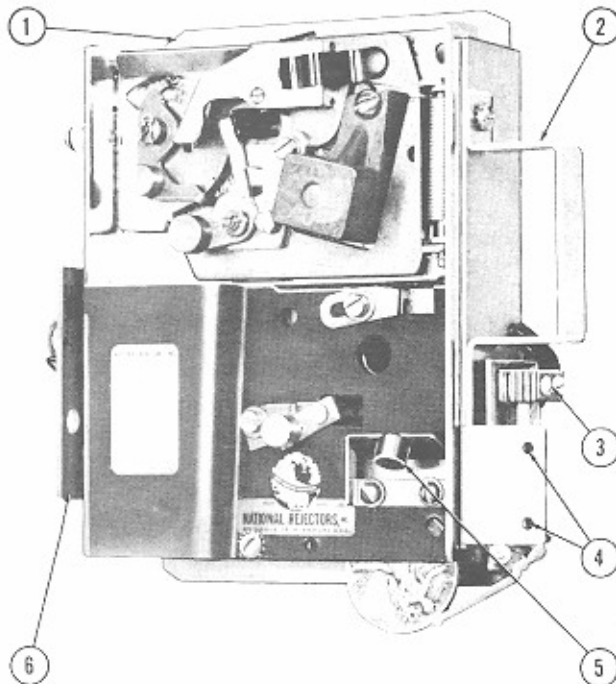

Fig. 7. SLUG REJECTOR ASSEMBLY, 50¢ 66185
(3) The following Wurlitzer components (Fig. 7) have been added to the 50¢ slug rejector: contact plate assembly, mounting plate, handle, coin switch assembly, and switch guard (not shown).